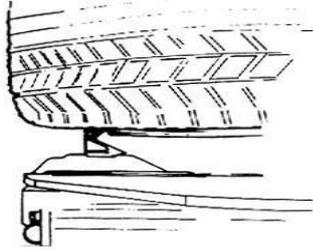

Fig 12
- 3) Put the tire on the turntable, depress the corresponding pedal to close the jaws until they near the rim and touch with the tire.( Fig 12)